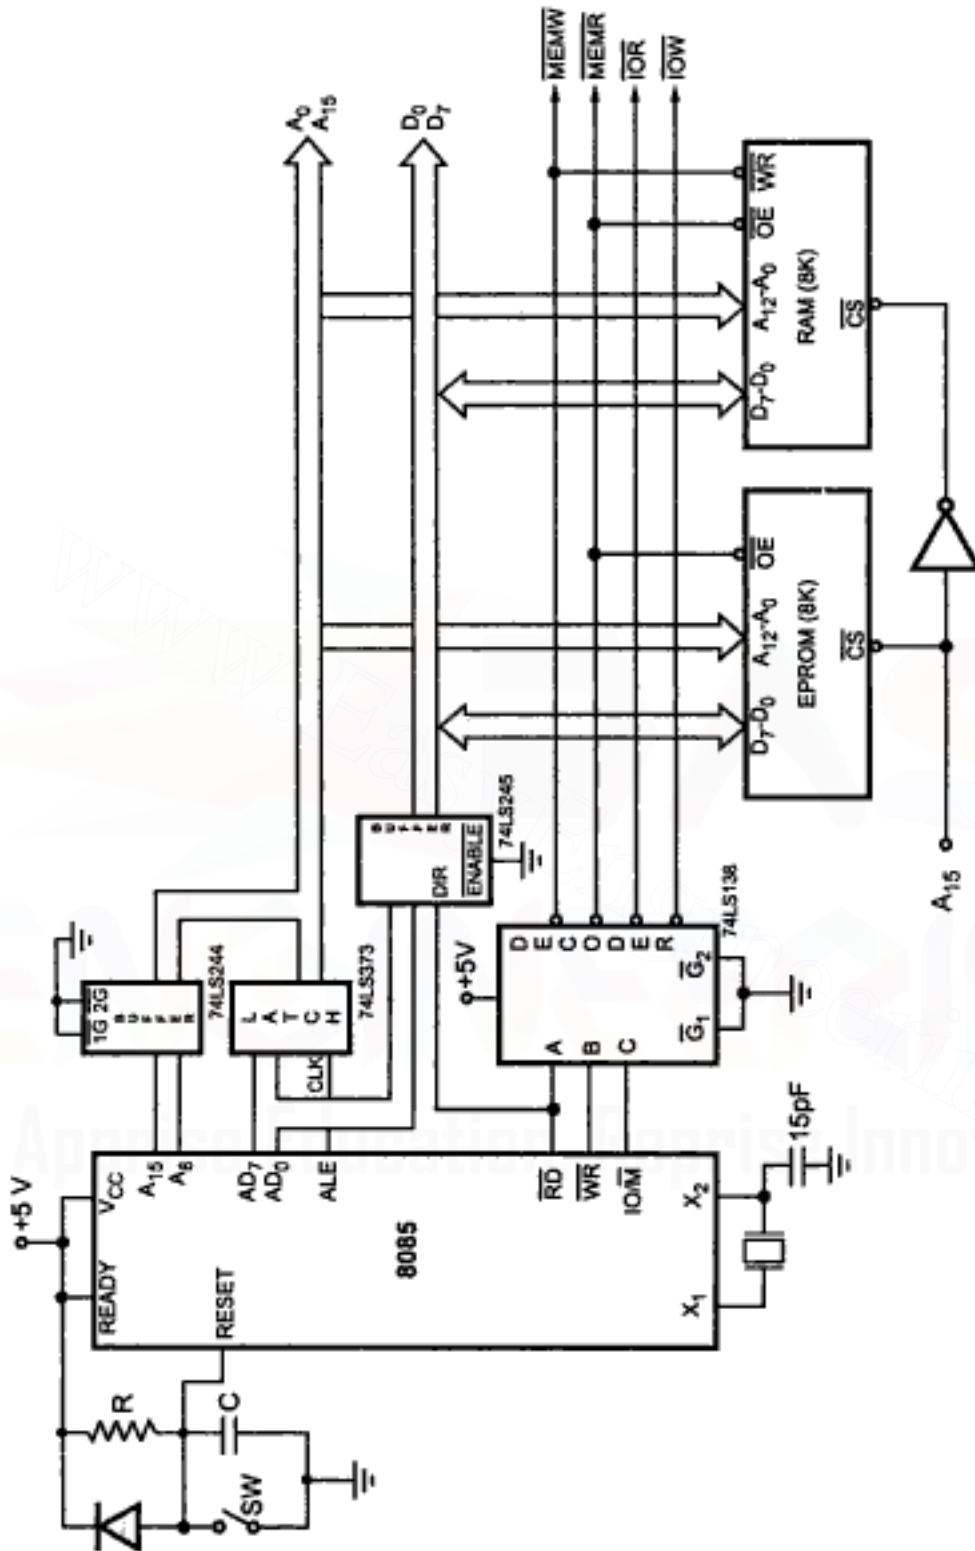

Fig. 6.24 Memory system using 8 Kbyte EPROM and 8 Kbyte RAM with linear address decoding
**Solution :** Fig. 6.24 shows the desired memory system using 8 Kbyte EPROM and 8 Kbyte RAM. Both EPROM and RAM are 8K, so they require 13 address lines ( $A_{12}$ - $A_0$ ). As problem says to design microprocessor system using linear addressing technique,  $A_{15}$  address line is used to generate chip select ( $\overline{CS}$ ) signals. When  $A_{15}$  address line is low, it selects EPROM and when it is high, it selects RAM. The Table 6.11 shows the memory map for the designed circuit.